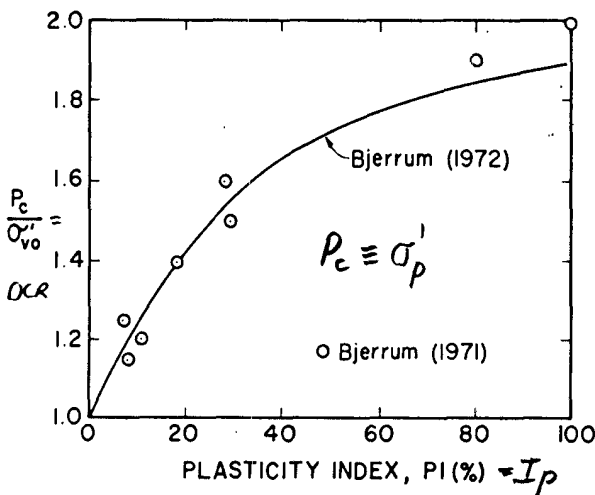

Fig. 39 Precompression of late glacial and post glacial clays attributed to aging.
2) Tokyo Fig 39 à la Bjerrum (1972) → Incr. OCR with incr. I_p